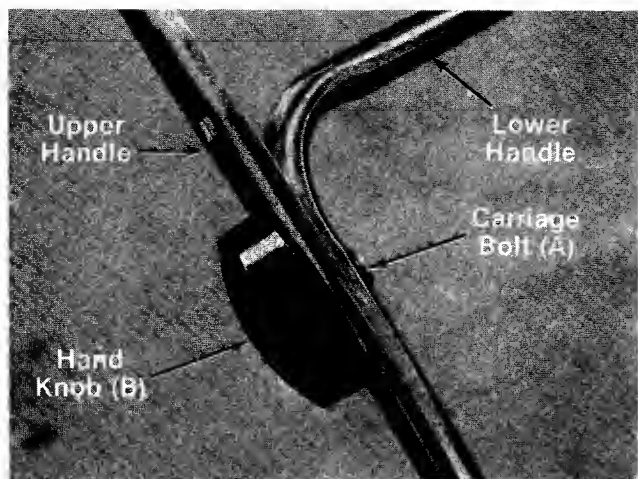

FIGURE 4. Folding Handle Only
- ← **B. Units with Folding Handle**—Secure upper handle with two curved carriage bolts (A) and hand knobs (B) as shown in figure 4. The knobs may be assembled either to the inside or the outside of the handle.